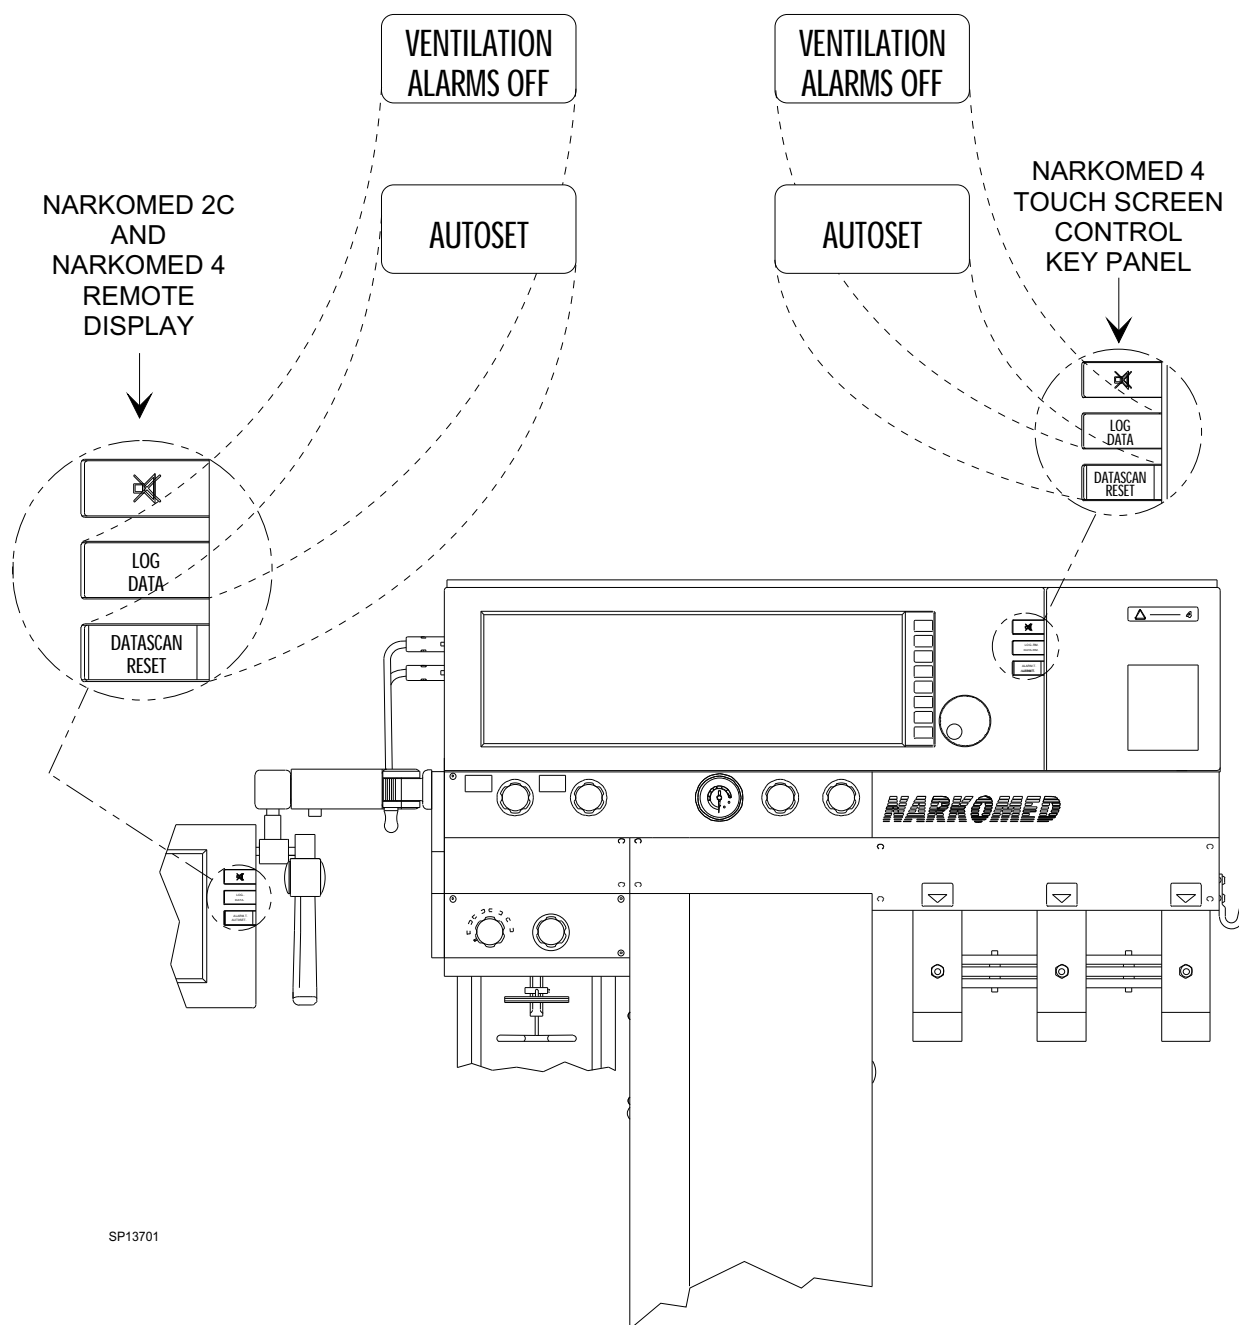

Figure 1: LOCATIONS OF AUTOSET AND VENT ALARMS OFF KEYS
1. Locate the DATASCAN RESET key on the remote display. On Narkomed 4 machines locate this key also on the touch screen control key panel. See Figure 1.
7. Locate the LOG DATA key on the remote display. On Narkomed 4 machines locate this key also on the touch screen control key panel. See Figure 1.